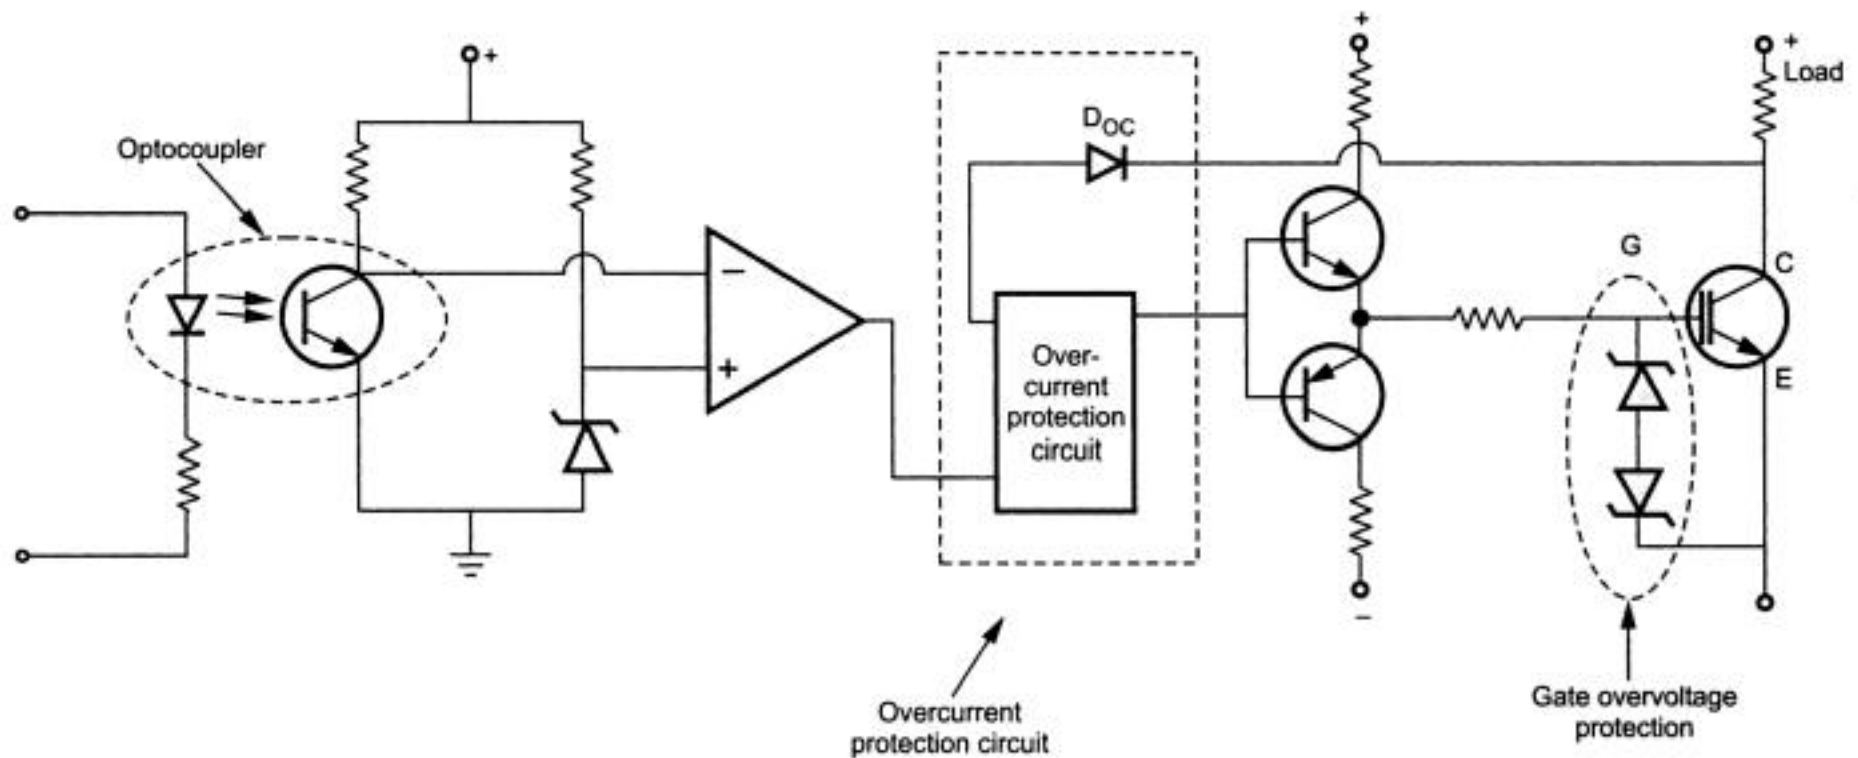

Fig. 1.4.12 Overcurrent protection
- The drain overcurrent of IGBT is continuously monitored. If overcurrent is detected, then drive of IGBT is disabled. This is normally incorporated in drive circuit of IGBT. Fig. 1.4.12 shows drive circuit of IGBT with overcurrent protection.